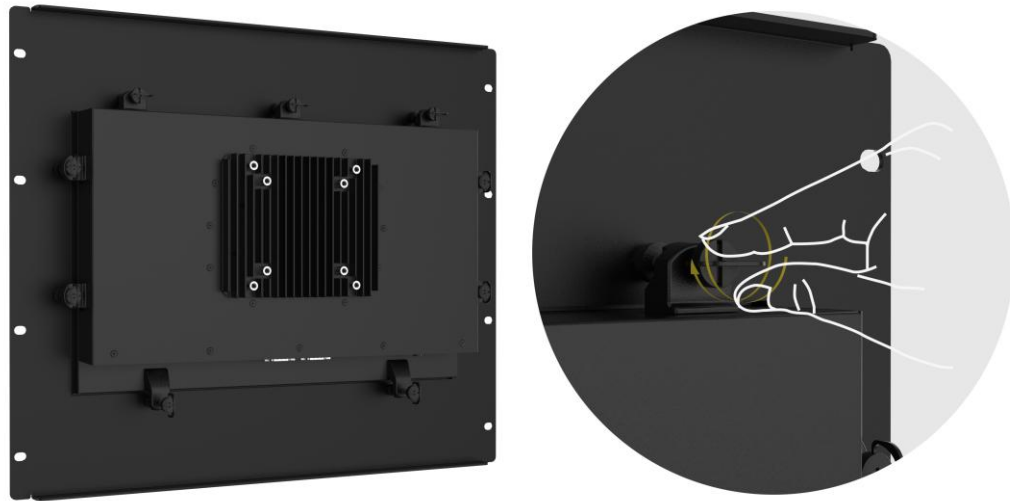

Figure 3-18: Tighten the Mounting Screws
Step 9: Tighten the screws that pass through the mounting clamps until the plastic caps at the front of all the screws are firmly secured to the panel (**Figure 3-18**).